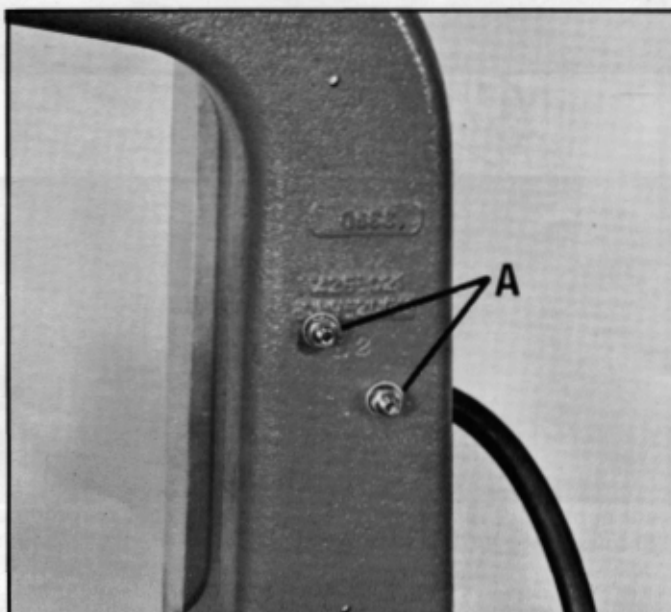

Fig. 12
4. Fasten the switch box to the band saw arm using the two nuts, lockwashers and flat washers (A) Fig. 12, which were removed in STEP 2.